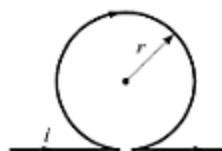

Fig. 5.24
9. An infinitely long straight wire is bent into a shape as shown in Fig. 5.24, the radius of the circular loop being  $r$  metre. It carries a current  $i$  ampere. Then the magnetic field at the centre of the circular part is